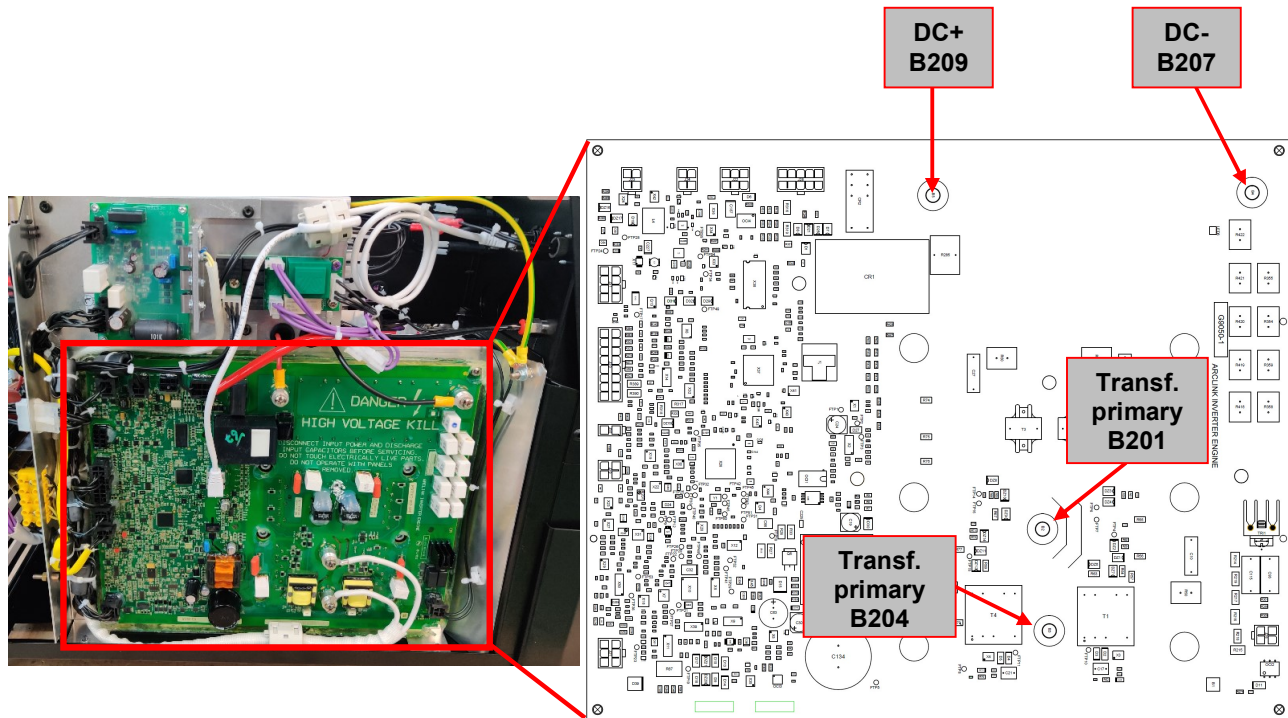

Figure 7 – Switch/Control board location and Test Points
3. Locate the Switch/Control board. See **Figure 7**.
5. Using the multimeter in diode test mode perform the tests detailed in **Test Table 9**. See **Figure 7** for Test Point locations.
7. Using the 8mm wrench or nut driver, disconnect and label DC+ (B209), DC- (B207) and the two transformer primary leads (B201 and B204) from the switch board. See **Figure 7** for leads location.
8. Perform the tests detailed in **Test Table 9**. See **Figure 7** for Test Point locations.